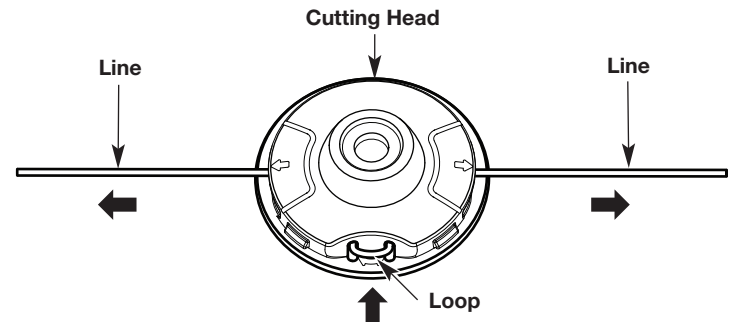

Fig. 18
4. Pull the ends of the line until the line is tight against the cutting head. Make sure the ends of the line are of equal length (Fig. 18). If one end is longer than the other, push the longer end back through the cutting head partway and pull the shorter end out. If necessary, repeat this process until both ends are of equal length.
5. Press the exposed loop of trimming line until it is tight against the cutting head (Fig. 18).